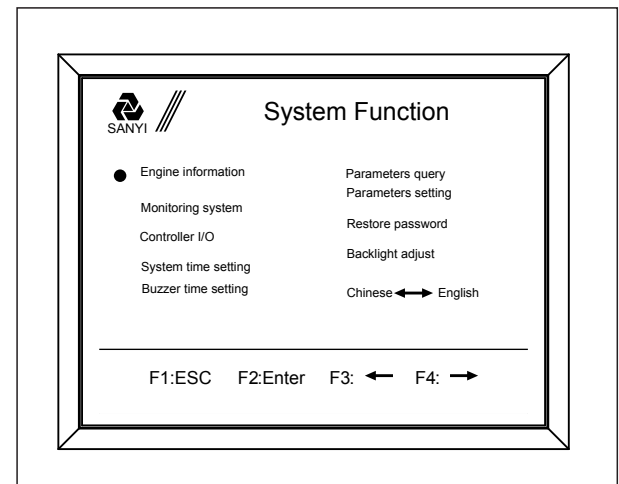

Fig 3-3.3
3. Enter the system function interface, F1 key to return, F2 key for confirmation key, the F3 key to move up, and F4 for down key(see fig3-3.3),.